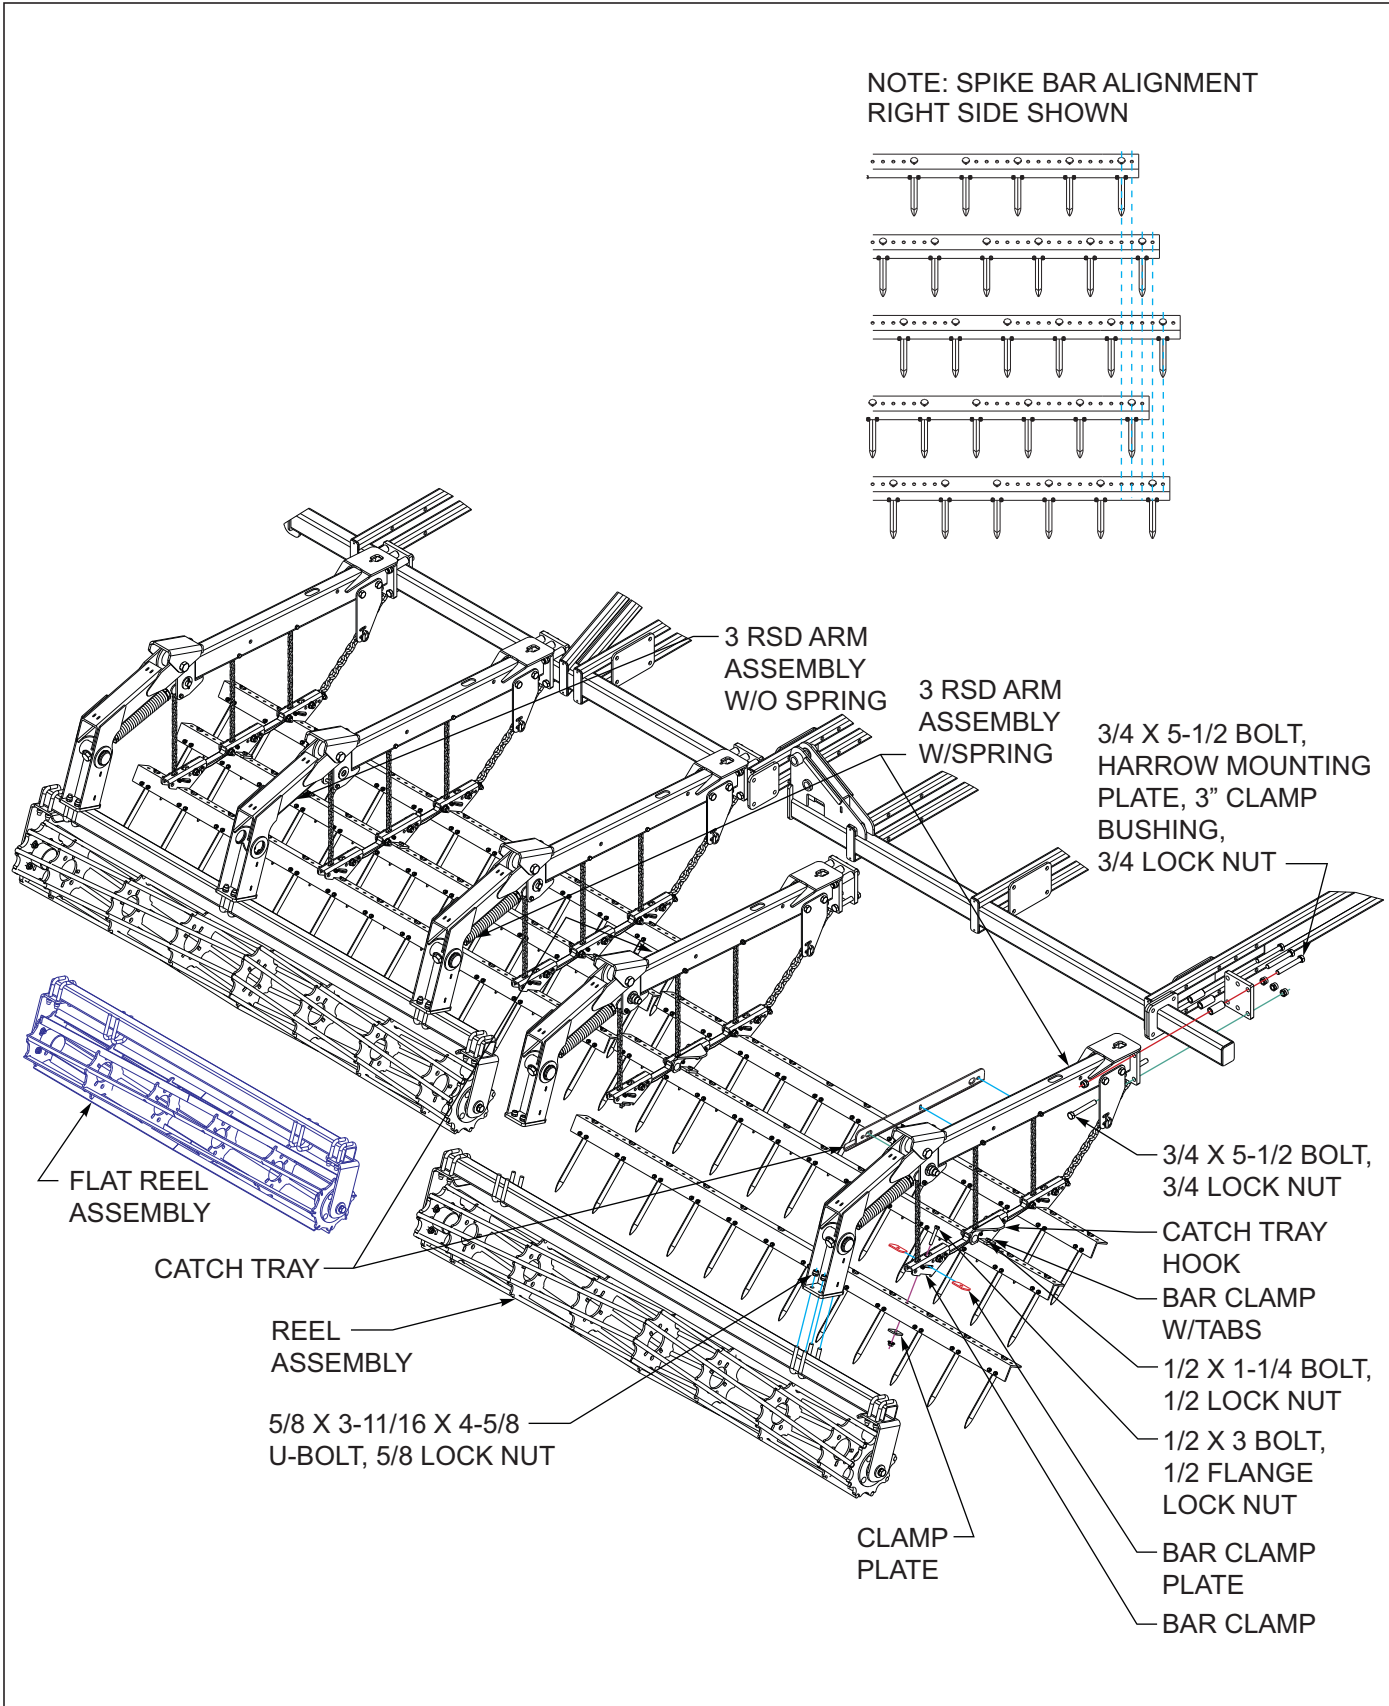

Figure 3-22: 3 Row Spike Harrow and Reel Installation
1. Attach the 3 RSD w/spring and 3 RSD w/o spring (**Models 9650-38’-42’ only**) arm assemblies to the rear tube of the center and wing frames using harrow mounting plates, 3/4-10x5-1/2 hex screws, clamp bushings and 3/4-10 lock hex nut See Figure 3-22.
The harrow arms with the catch tray hooks are used on the outer wings with the catch tray hooks toward the outside of the machine and the catch trays toward the center of the machine. See Figures 2-43 - 2-54 for 3 Row Spike and Reel Harrow or See Figures 2-55 - 2-66 3RSD & flat reel and See Figures 3-22 for proper placement.
3. Refer to Note: spike bar alignment See Figures 3-22 for proper alignment of spike bar assemblies. Be sure they are aligned properly on both right and left side of each section.